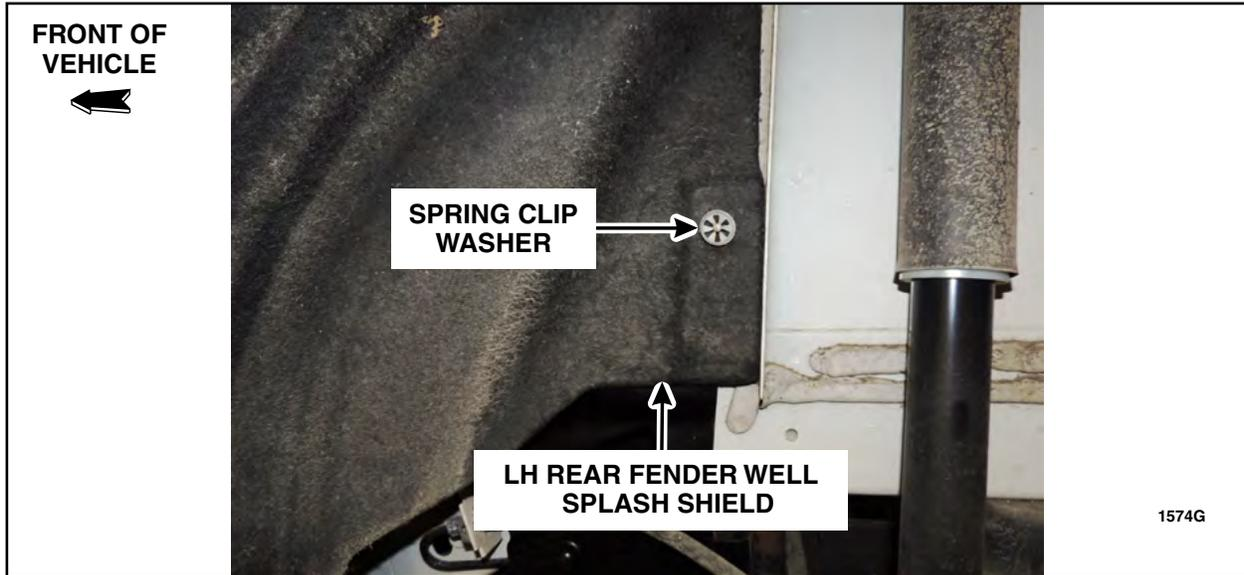

FIGURE 8
2. Remove the LH rear fender well splash shield spring clip washer. See Figure 8.